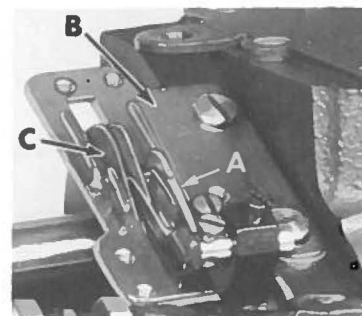

Fig. 11
The looper thread cast-off wire (A, Fig. 11) located on the cast-off support (B) controls the amount of slack thread in the system and can be moved to any position. It should be set laterally so that it is midway between the two discs of the take-up (C) and the tip parallel with the discs. It is usually set toward the take-up to almost the limit of its slot so that it barely clears the highest point of the take-up. The height and the lateral adjustment of the retainer affects the control of the looper thread as the looper moves to the left. Ordinarily it will be set in approximately a horizontal position. More looper thread is given to the stitch when the retainer is raised and set toward the take-up. However, if the retainer is raised too high, the looper thread triangle may be wiped under the blade of the looper, causing triangle skips or pulled down stitches. This can be checked by observing the action of the looper thread as the looper moves to the left.